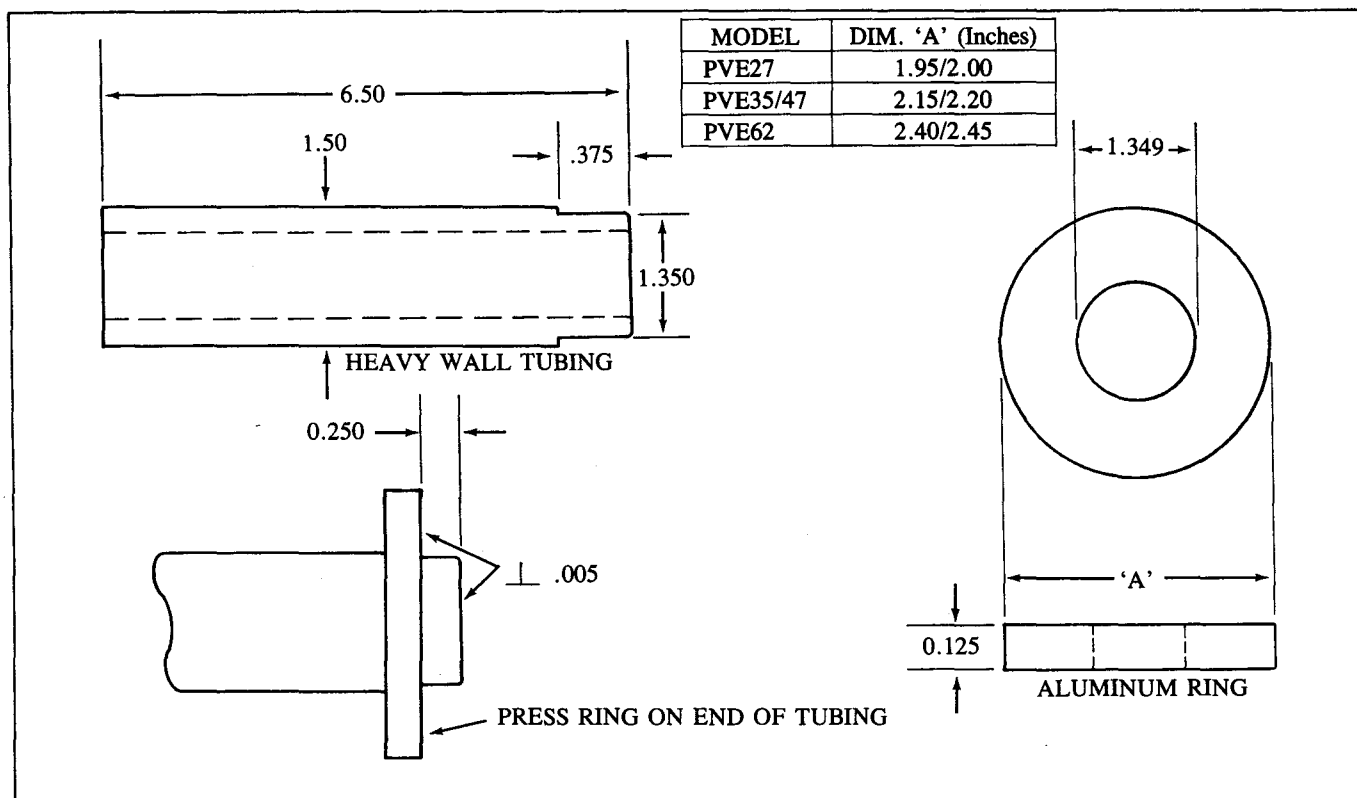

Figure 7. Shaft Seal Driver.
- Shaft seal assembly tool. (See Figure 7.)